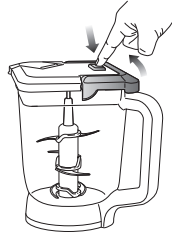

Fig. 8
- 16 For thicker consistencies, first remove the lid by pressing the release button and pulling the lid handle up to a 90 degree angle to lift lid off the pitcher. Then, carefully remove the Stacked Blade Assembly by the top of the shaft. Place Stacked Blade Assembly away from the work area to avoid accidental contact. Finally, empty contents from the pitcher. **(Fig. 8)**